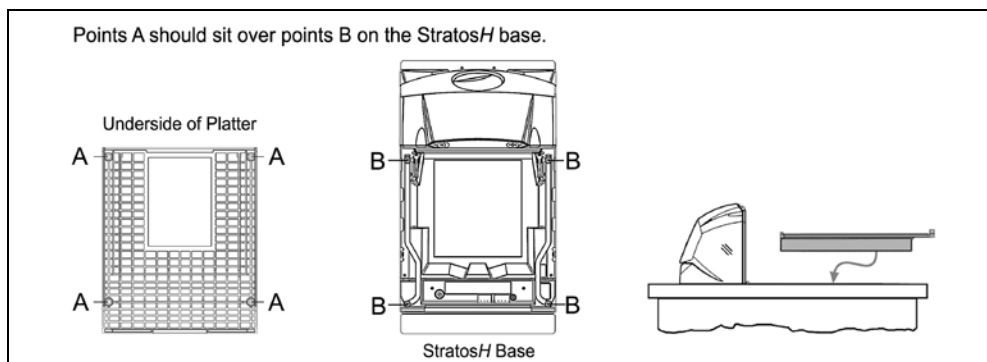

Figure 58. Platter Installation
3. With very light pressure, push down on the adhesive calibration security seal label to ensure a firm adhesion is created (see *Figure 58*).